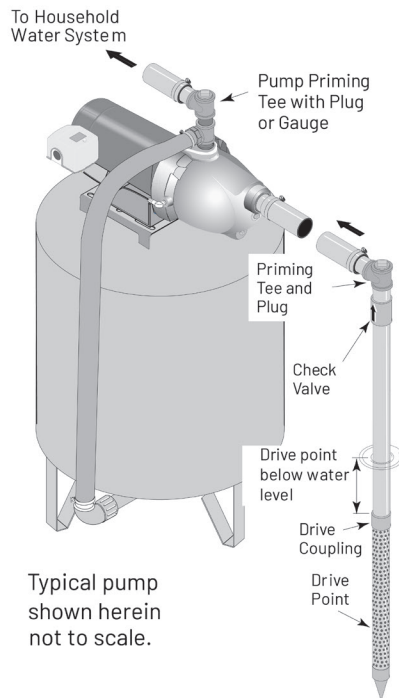

Figure 1: Driven Point Installation
3. Use the fewest possible fittings, especially elbows, when connecting the pipe from the well point to the pump suction port. The suction pipe should be at least as large as the suction port on the pump. Include a check valve if your pump is not equipped with one (Figure 1).